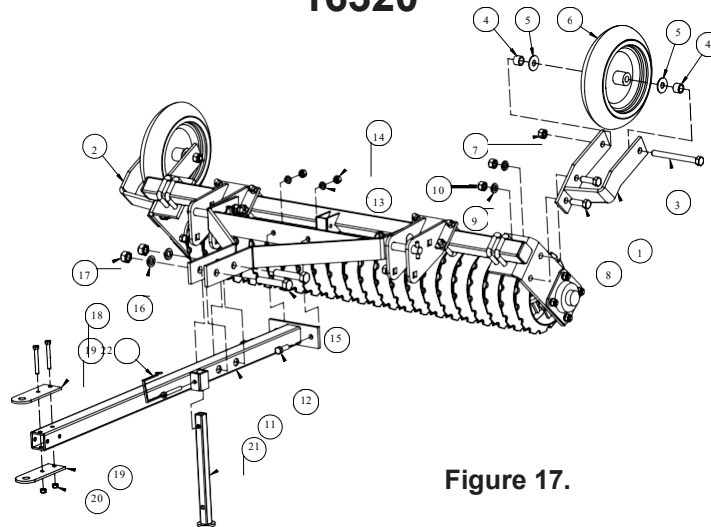

Figure 17.
3. Insert the Tongue Weldment (Figure 17, Ref. 11) into the A-Frame. Ensure the safety decals are upside down on the tongue weldment. The safety decals will be right side up and legible while in transport position. Using two 3/4" x 4" Hex Bolts (Figure 17, Ref. 15), two 3/4" Lock washers (Figure 17, Ref. 16) and two 3/4" Hex Nuts (Figure 17, Ref. 17) into the large top link holes on the A-Frame. Also bolt the tongue base using two 1/2" x 1 1/2" Hex Bolts (Figure 17, Ref. 12), two 1/2" Lock washers (Figure 17, Ref. 13) and two 1/2" Hex Nuts (Figure 17, Ref. 14).
2. Using two 5/8" x 2" Hex Bolts (Figure 17, Ref. 8), two 5/8" Lock washers (Ref. 9) and two 5/8" Hex Nuts (Ref. 10) install the wheel and bracket assembly onto the roller hanger using the two upper holes. (Note the angle of each bracket in Figure 17)